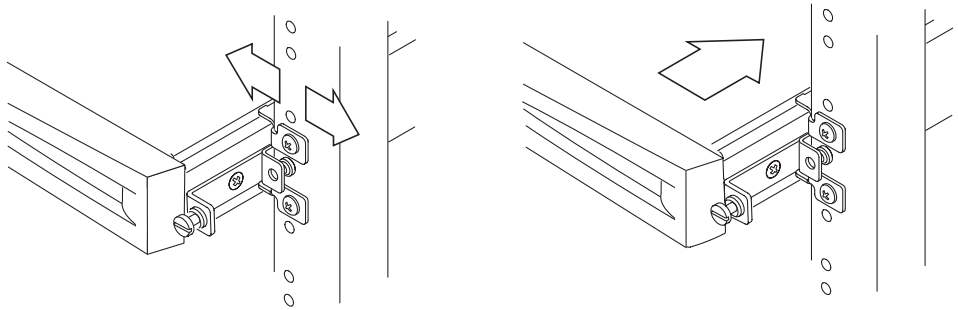

FIGURE 3-9 Adjusting the Mount and Tightening the Thumbscrew
13. **Secure the captive screws on the front of the array into the front ear of each bracket on the front posts (FIGURE 3-9).**